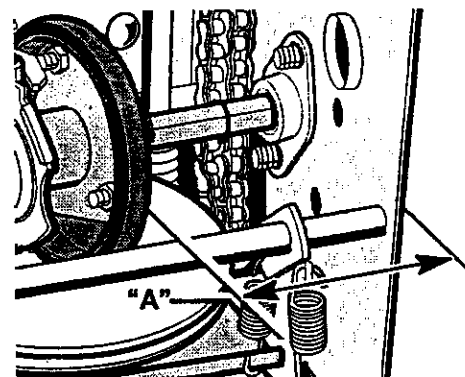

Figure 38
7. Note the position of the friction wheel (see Figure 38). The correct distance "A" from the right side of the friction wheel to the outside of the motorbox is as follows:
3. Move the friction wheel to the correct position (see Figure 38).